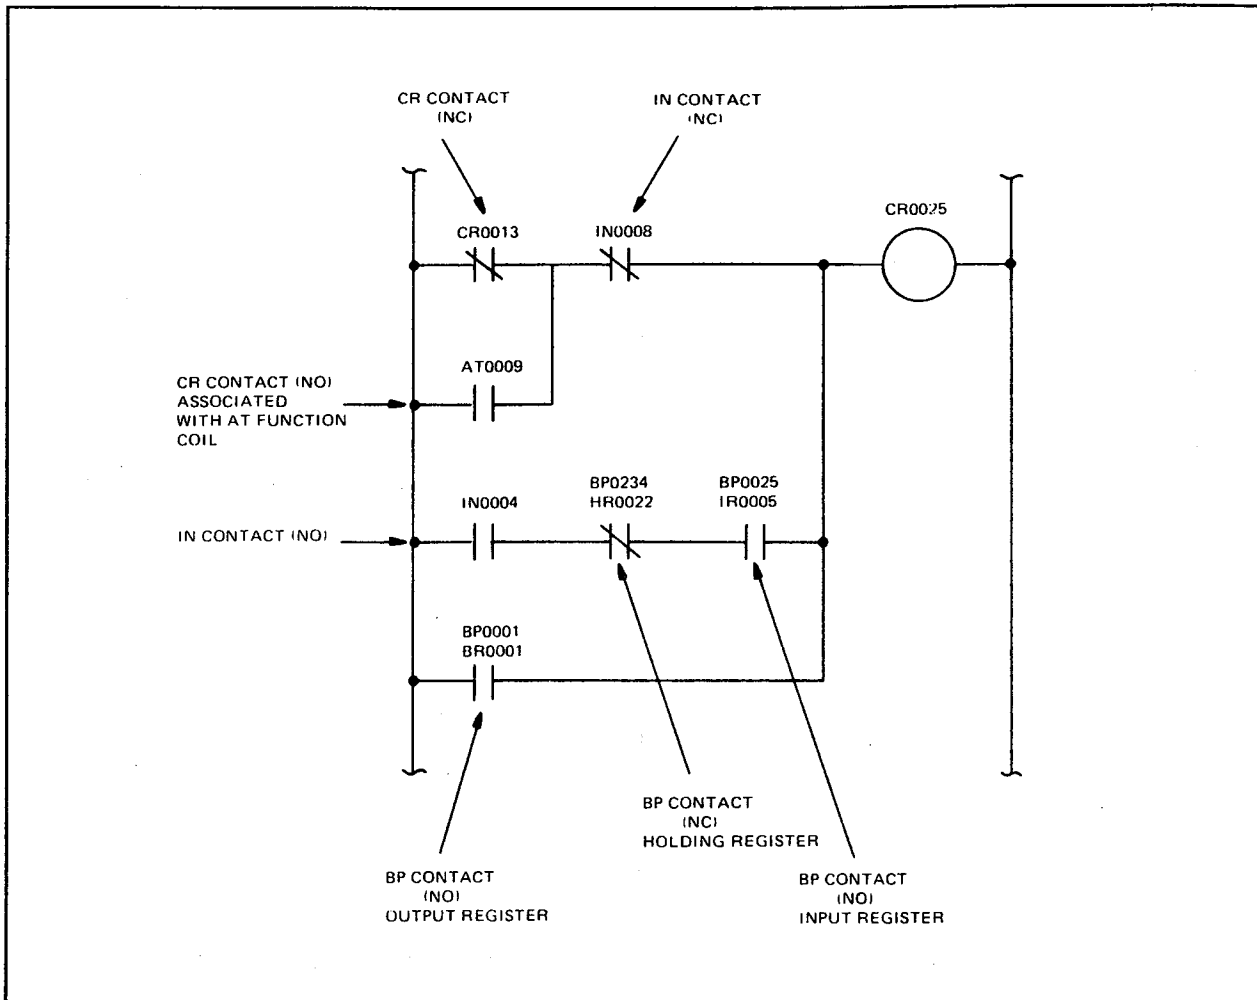

Figure 4-14. Contact Types
Input (IN) contacts are used to represent contacts operated by pushbuttons, limit switches and other pilot devices. Control relay (CR) contacts are used to represent contacts operated by the coils of control relays. CR contacts are also used by many special functions (such as timers and counters). Bit Pick (BP) contacts are used to indicate the state of individual bits of register data (e.g., the presence of a bit in shift register(s). (Not all PC-1100 controllers support the BP function.) Figure 4-14 shows an example of each type of contact.